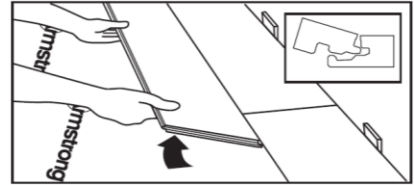

Fig. 12
2. Install the long end of the first board at an angle to the board in the previous row. Keep this board at its natural angle slightly raised off the subfloor (**Fig. 12**). Use a scrap piece of laminate to support the row if needed.